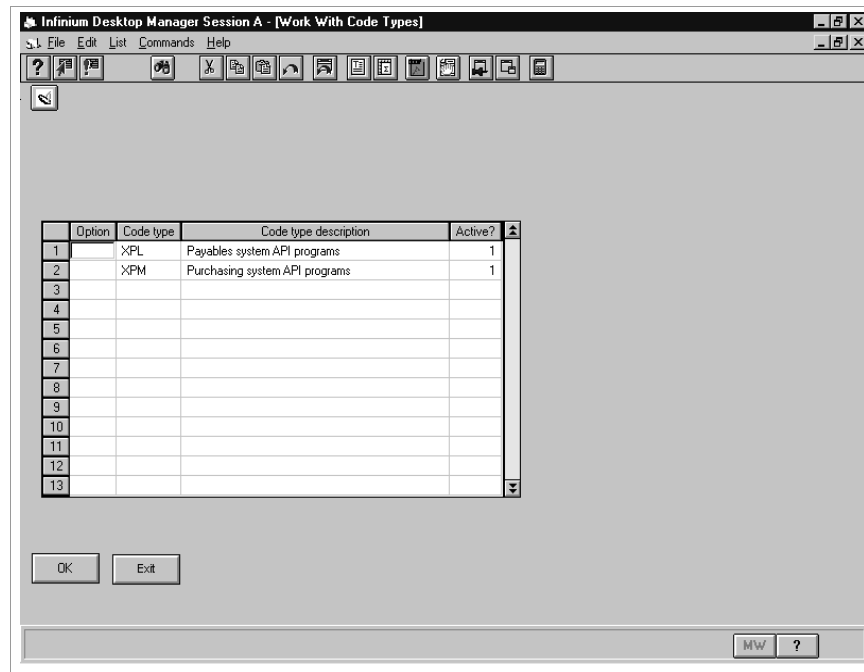

Figure 2-5: Work With Code Types Prompt screen
- 2 Select *Work with code values* [PXWWCV]. The system displays a screen similar to Figure 2-5.